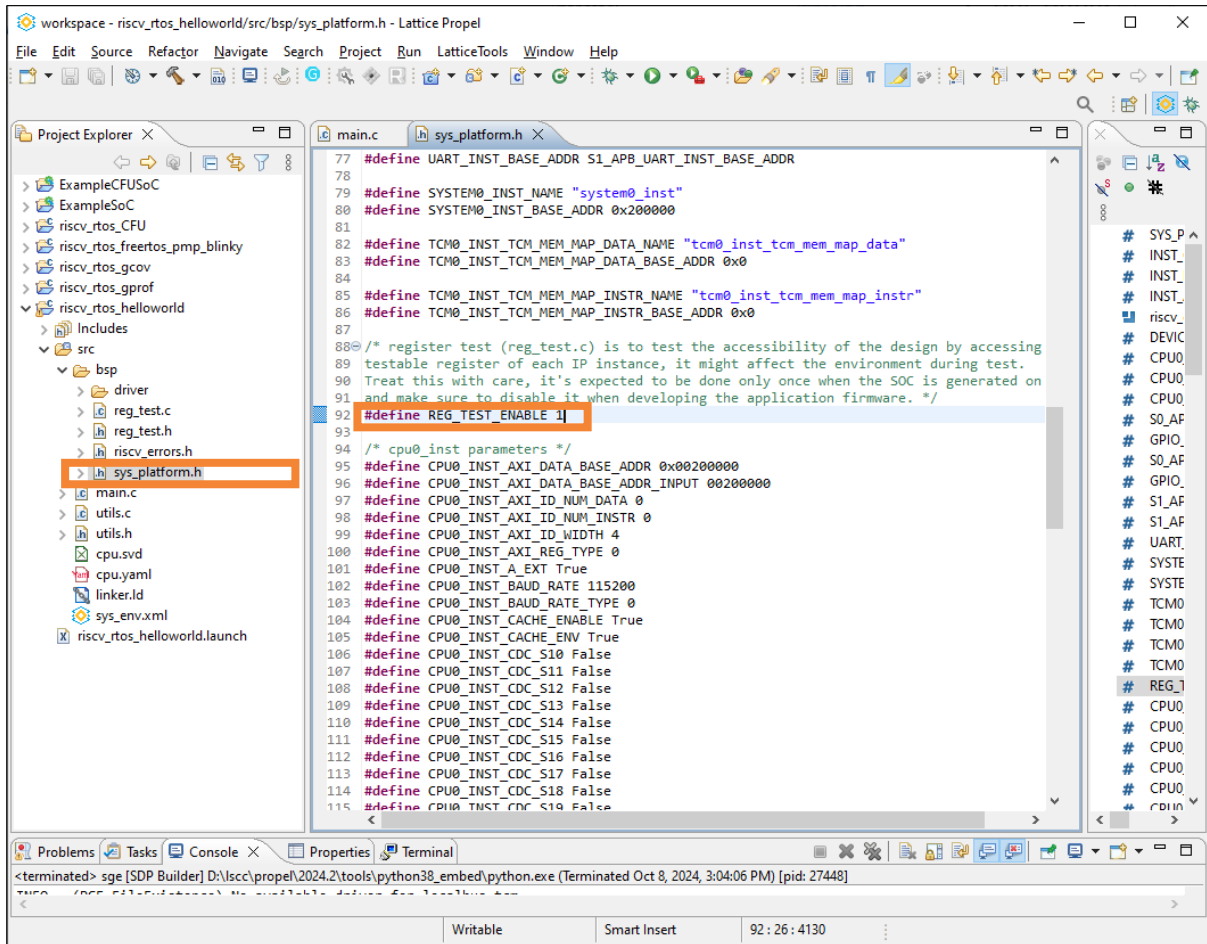

Figure F.5. Enabling Test Code
2. Set define REG_TEST_ENABLE to 1 in the file `sys_platform.h` (Figure F.5).